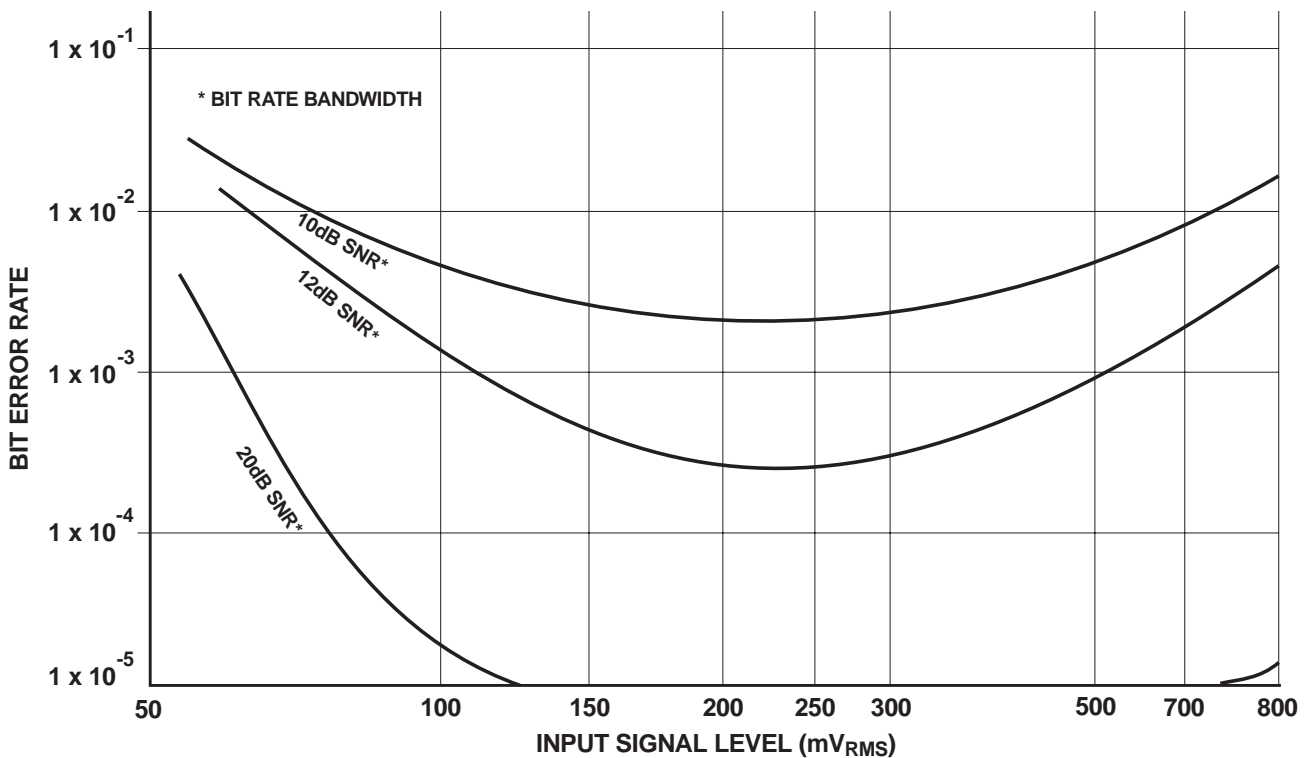

Figure 16: Typical Variation of Bit Error Rate with Input Signal Level
10. See Figure 16 (variation of BER with Input Signal Level).